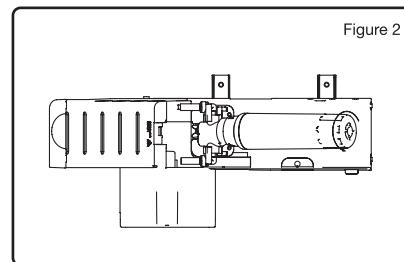

Figure 2
- Remove the filter by turning it clockwise (Figure.2).
* To replace the ice storage compartment, repeat the steps in reverse order: Firmly pull the ice compartment downwards, until it's in the correct position. If it's difficult to install the ice container, turn the rotating panel of the ice container 90°, as shown in Figure 2. Then, install the ice container.